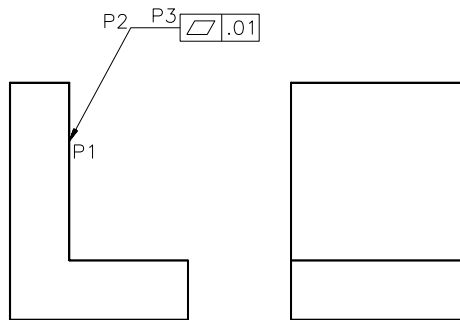

Figure 8-76 Using the feature control frame with leader
4. When you have finished entering the values, choose the **OK** button in the **Geometric Tolerance** dialog box, and then select the point where you want to insert the frames. AutoCAD will create the two frames and automatically align them with the common position symbol, as shown in Figure 8-76.
The **Leader Settings** dialog box invoked using the **QLEADER** command has the **Tolerance** option that allows you to create the feature control frame and attach it to the end of the leader extension line, see Figure 8-76. The following is the prompt sequence for using the **QLEADER** command with the **Tolerance** option: